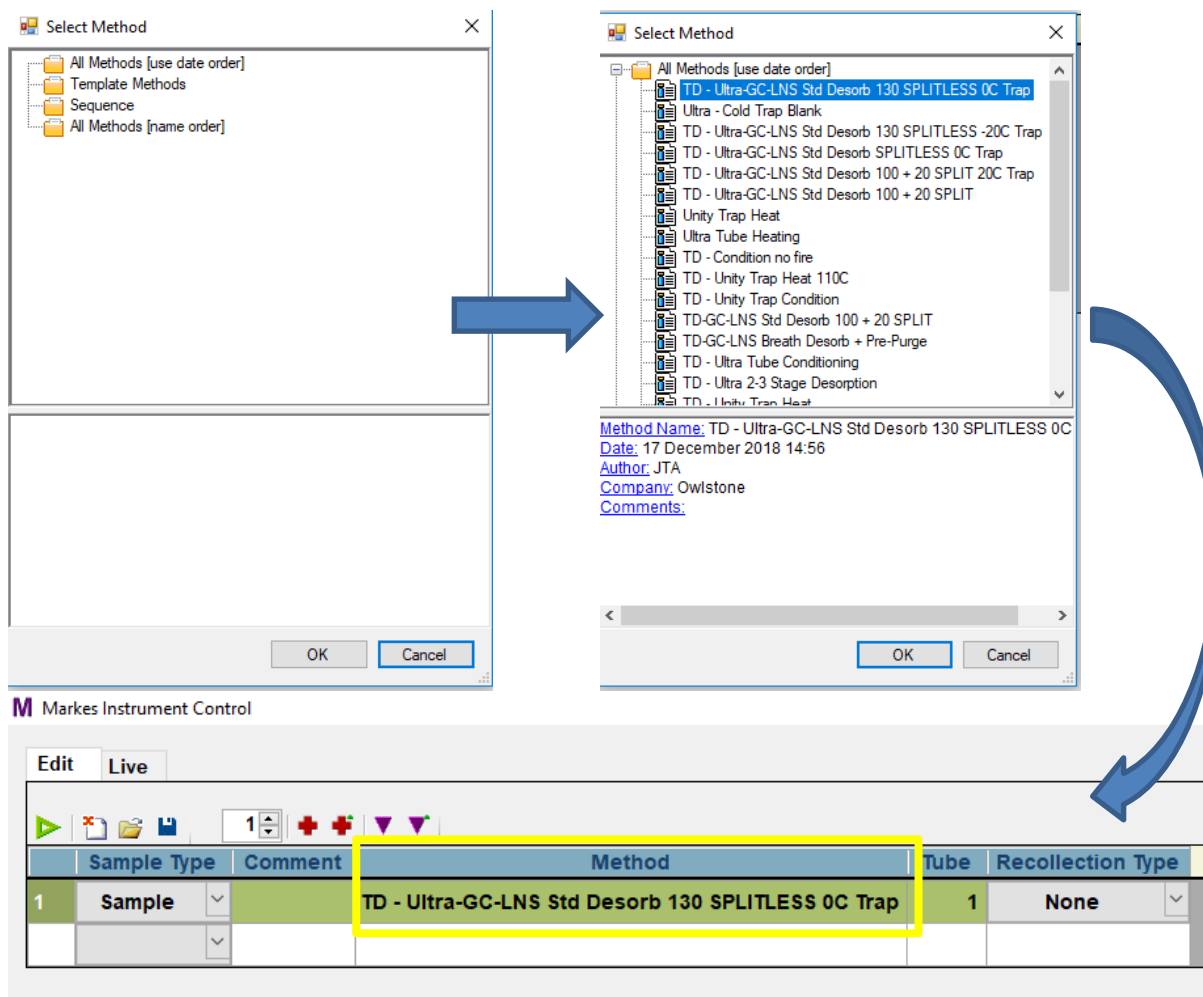

Figure 18. TD method selection.
4.5.4 Click on the “Method” box to open the methods list. Select the method to be loaded for the sample analysis. Once selected, the method will appear in the Sequence Edit View as per Figure 18.